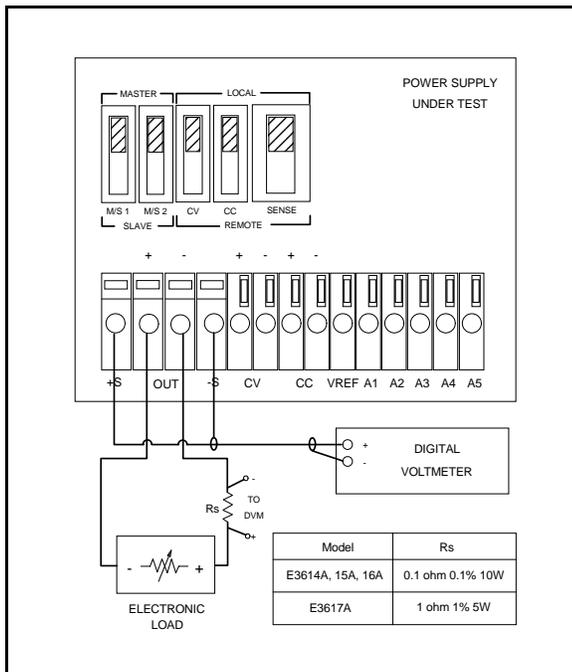

Figure A-4. Basic Test Setup
- Connect the test equipment as shown in Figure A-4. Operate the electronic load in constant current mode and set its current to the full rated value of the power supply (6 A for E3614A, 3 A for E3615A, 1.7 A for E3616A and 1 A for E3617A).
- Connect the test equipment as shown in Figure A-4. Operate the electronic load in constant current mode and set its current to the full rated value of the power supply.
- Connect the test equipment as shown in Figure A-4, but replace the DVM with the oscilloscope. Operate the electronic load in constant current mode.
- Connect the DVM across R_s in Figure A-4.
- Connect the DVM across R_s in Figure A-4. Operate the electronic load in constant voltage mode and set its voltage to the full rated value of power supply.
- a. Connect the DVM across R_s in Figure A-4. Operate the electronic load in constant voltage mode and set its voltage to the full rated value of the power supply.